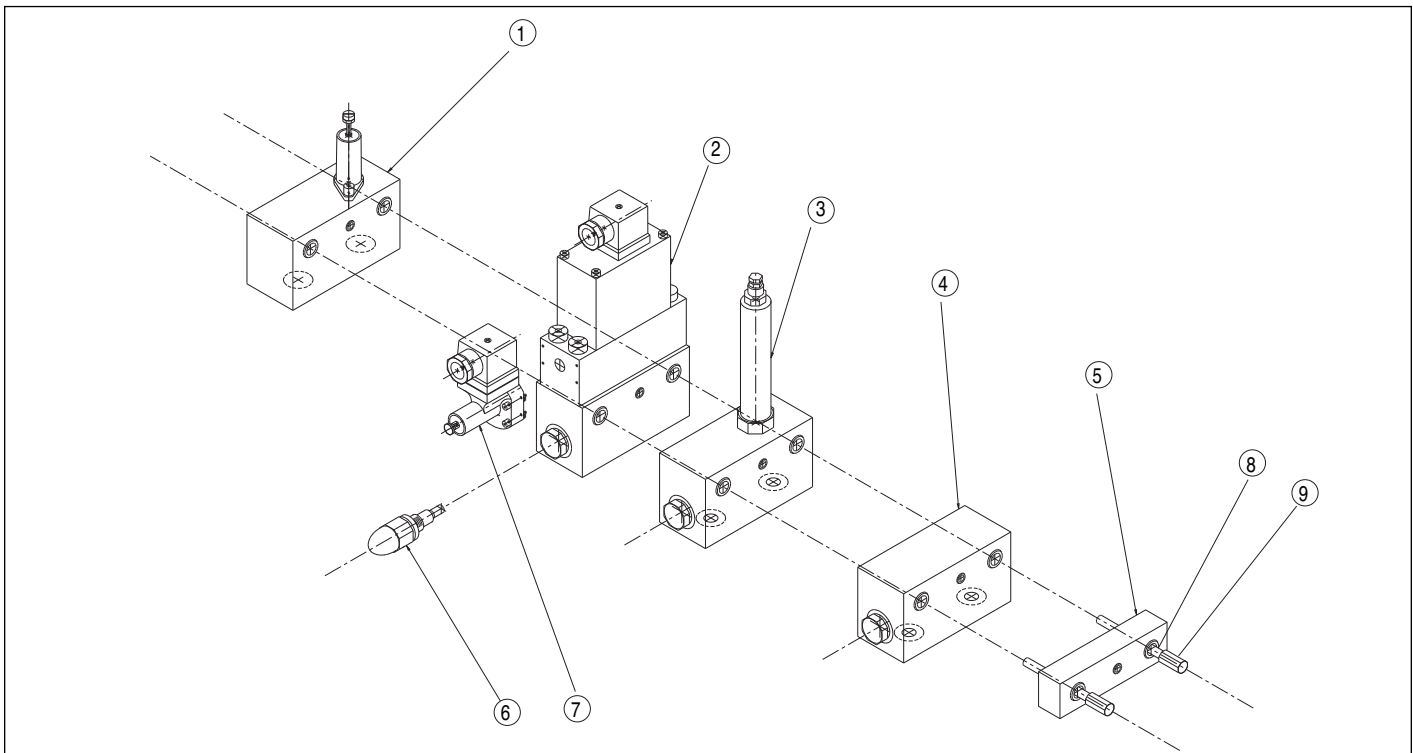

Figure 15. EXAMPLE VALVE STACK ASSEMBLY
1. Position valve manifold "WM10" with valve locator pins facing up, (see Item 1, Figure 15). Screw both tie rods into manifold (end with short thread length).
2. Stack desired valves and accessories (see Items 2, 3, and 4, Figure 15). Make sure that locator pins and mating holes line up.
3. Install end plate over tie rods (see Item 5, Figure 15).
4. Install seal washer over each tie rod (see Item 8, Figure 15).
5. Install 10mm cap nut over each tie rod (see Item 9, Figure 15). Torque to 5.5 ft. lbs. (7,5 Nm).